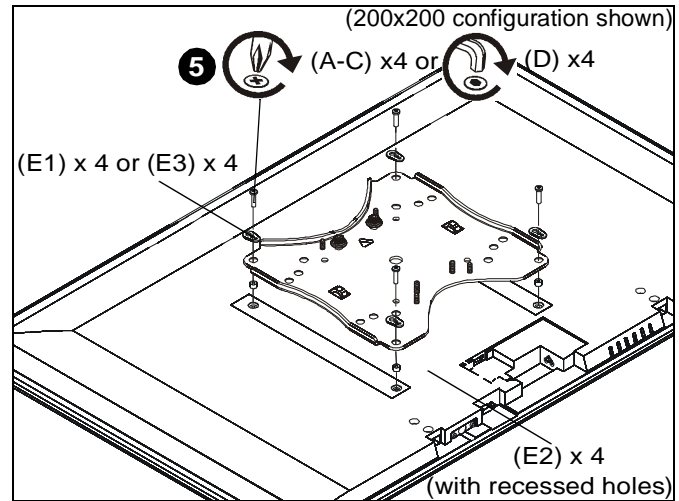

Figure 11
3. Select screw *diameter* by examining hardware (A-D) (4mm, 5mm, 6mm or 8mm) and comparing with mounting holes on display. (See Figure 11)
4. Select spacers: (See Figure 11)
- If mounting holes are not recessed and faceplate (H) can lay flat against display, then no spacers are required.
- If mounting holes are recessed, or if protrusions prevent faceplate (H) from laying flat, then spacers (E2) must be used.
5. Select screw *length*: (See Figure 11)
- Using your hand, insert **SHORTEST** length screw of selected diameter (A1, B1, C1 or D1) through universal washer (E1) or M8 washer (E3), faceplate (H), selected spacer (E2, if required), into display mounting hole. Do NOT thread screw into hole at this time.
6. Use selected screws and spacers to connect interface brackets to back of display. (See Figure 11)